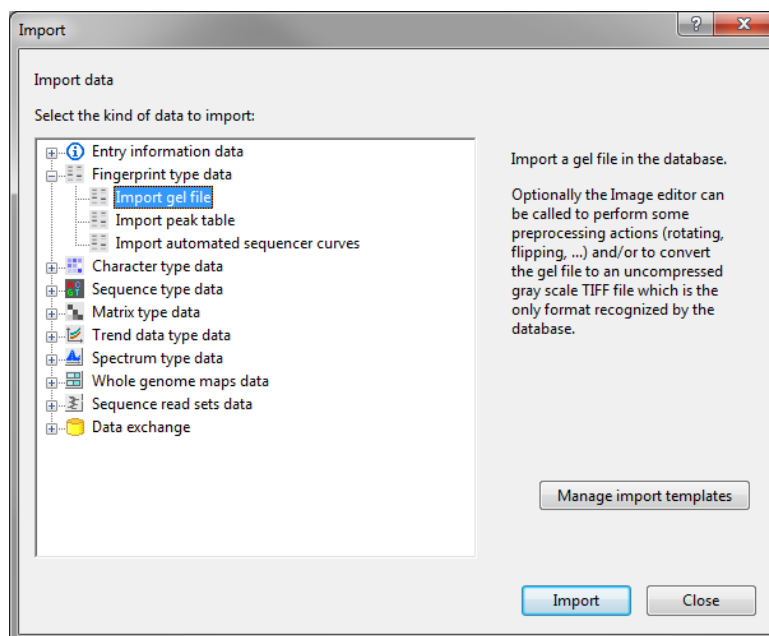

Figure 3: Import tree.
1. To add a new fingerprint file to the database, select **File > Import...** (📁, **Ctrl+I**) and select **Import gel file** under **Fingerprint type data** (see Figure 3).